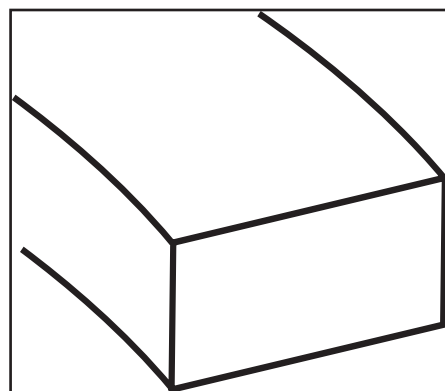

Figure 3
- viii. If ring has no dots and no bevel, it can go either way. **See Figure 3** above.